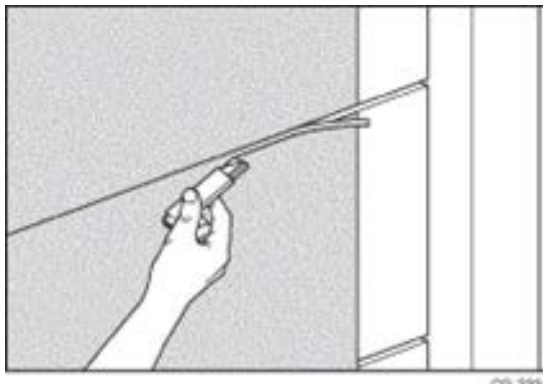

Figure 15. Cutting Film at the Door Fold Seams
5. Trim along both edges of the door fold seams, holding the cutting tool at a 45° angle. See Figure 15.